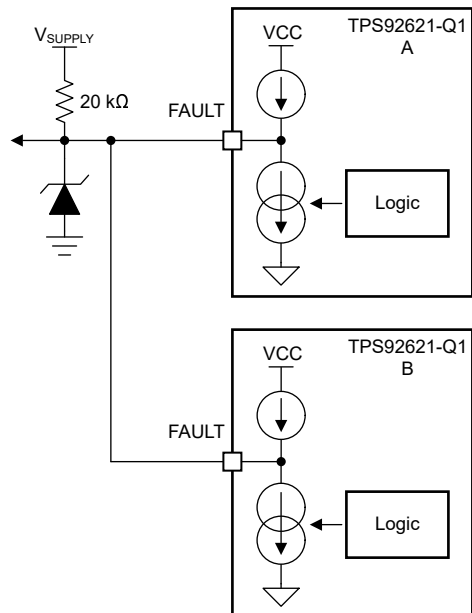
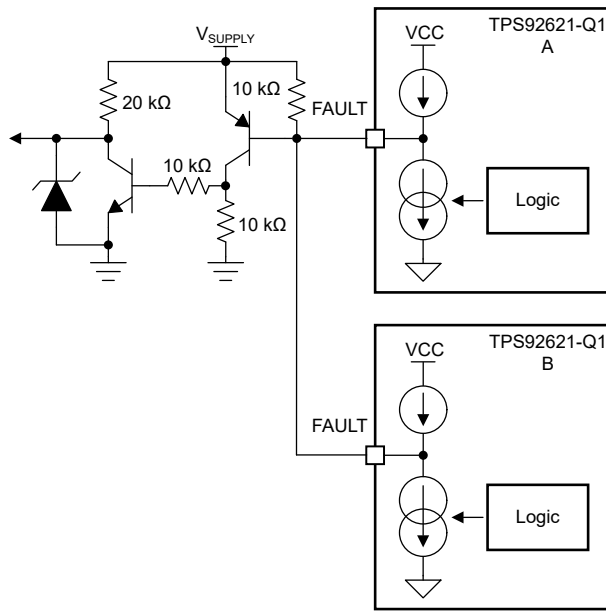

Figure 7-6. FAULT Bus for One-Fails-All-Fail Application
Figure 7-7. FAULT Bus for One-Fails-Others-On Application
Based on this feature, the TPS92621-Q1 device is able to construct a FAULT bus by tying $\overline{\text{FAULT}}$ pins from multiple TPS92621-Q1 devices to achieve one-fails-all-fail function as Figure 7-6 showing. The lower side TPS92621-Q1 (B) detects any kind of LED fault and pulls low the $\overline{\text{FAULT}}$ pin. The low voltage on $\overline{\text{FAULT}}$ pin is detected by upper side TPS92621-Q1 (A) because the $\overline{\text{FAULT}}$ pins of two devices are connected. The upper side TPS92621-Q1 (A) turns off output current as a result. If the $\overline{\text{FAULT}}$ pins of each TPS92621-Q1 are all connected to drive the base of an external PNP transistor as illustrated in Figure 7-7, the one-fails-all-fail function is disabled and only the faulty channel device is turned off.